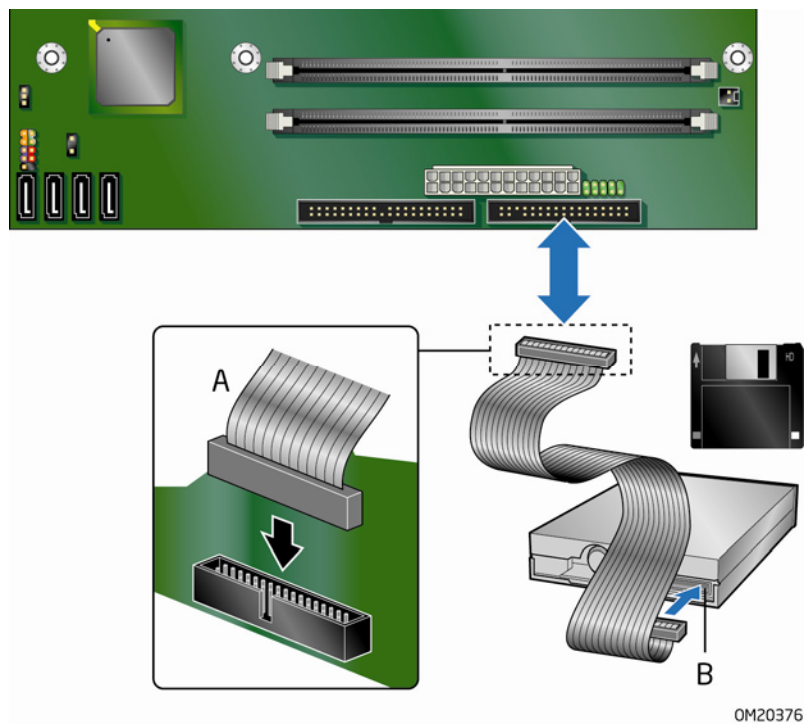

Figure 18. Connecting the Diskette Drive Cable
2. Attach the cable end labeled P1 to the diskette drive connector on the Intel Desktop Board (Figure 18, A).
3. Attach the cable end labeled P2 to the diskette drive (Figure 18, B).